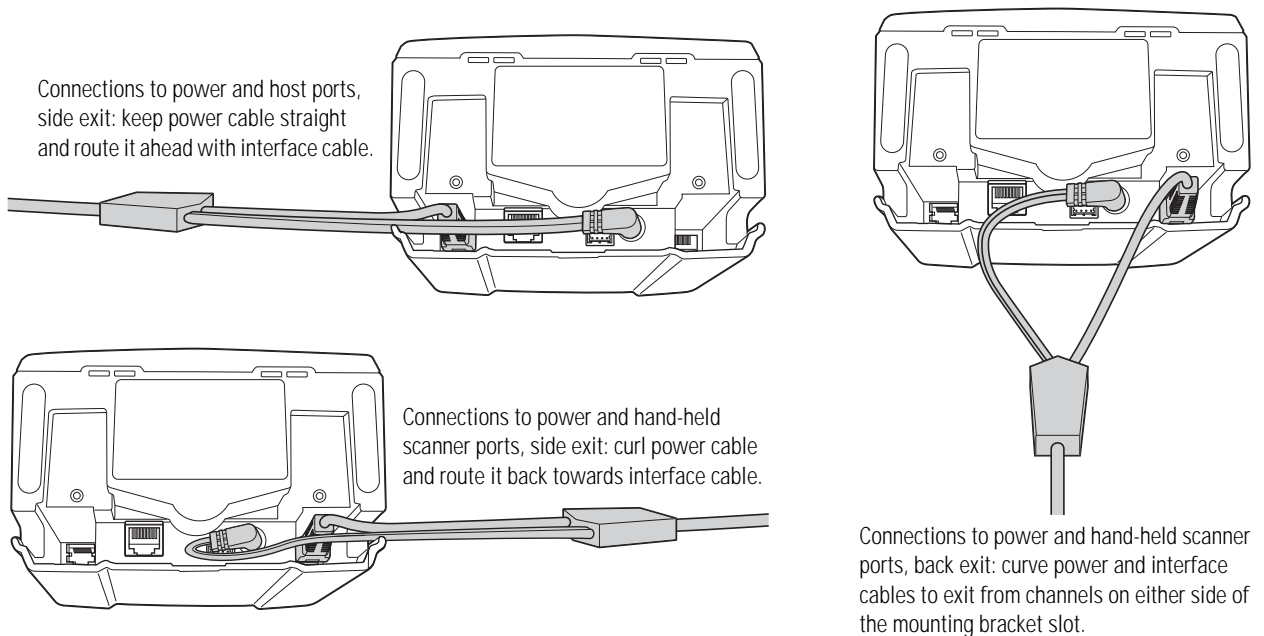

Figure 1-4 Cable Routing Options
2. Route the cables according to the appropriate diagram in Figure 1-4.
1. Connect all interface and power cables to the scanner (see *Figure 1-3 on page 1-6*). Route the cables appropriately for the mounting and cable configuration (see *Figure 1-4*).